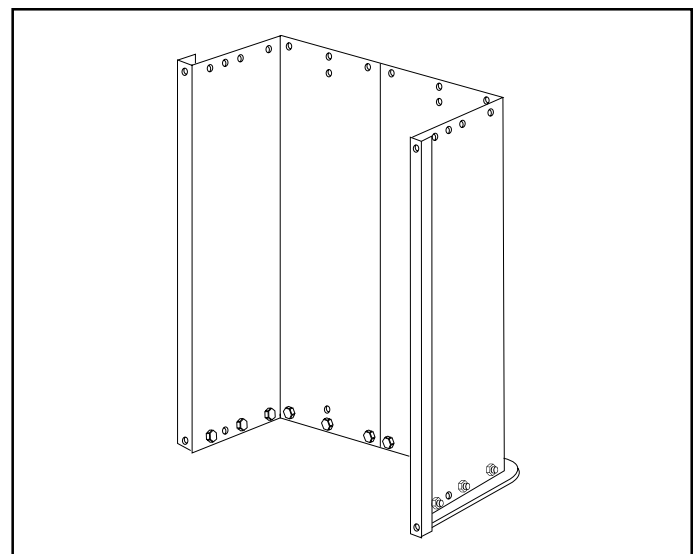

FIGURE 4
8. Carefully reverse the position of the cart so that it rests on its opposite end, on the tailgate reinforcement bracket, as shown in figure 4. Proceed with the following assembly steps.